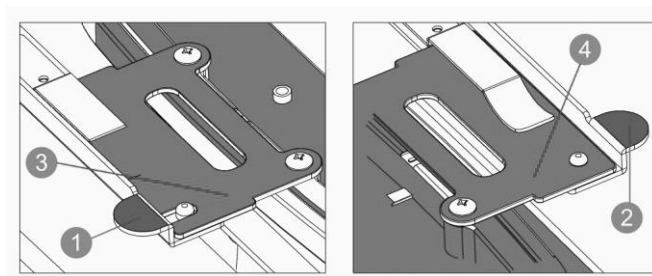

Figure 86
2. Push up the frame by using the levers. See No. 1 and No. 2 in Figure 86.
3. Release the frame from the brackets. See No. 3 and No. 4 in Figure 86.